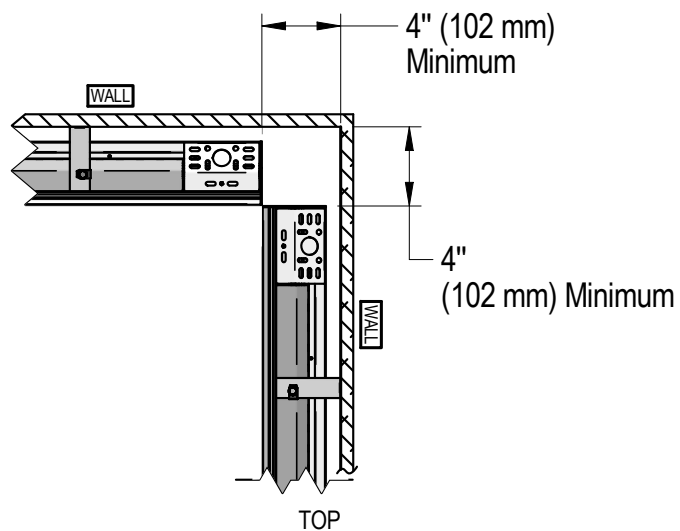

FIGURE 5
- B. Locate wall studs into which the wall brackets will be installed. A wall bracket should be installed as close as possible to each end of the unit. Install the wall brackets to match the 1-inch spaced slotted holes on the back of the unit's enclosure. For each wall bracket, the screw holes are slotted for this purpose. See Figure 5.